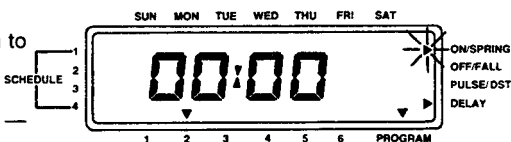
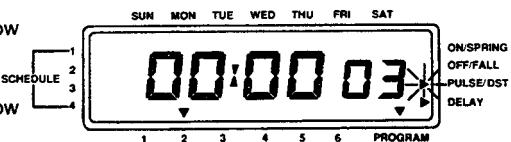

Figure 8
Figure 9
2. "On" (see Figure 8 for display) or "pulse" (see Figure 9 for display) type event
- b. "On" (see Figure 8) or "pulse" (see Figure 9) type event